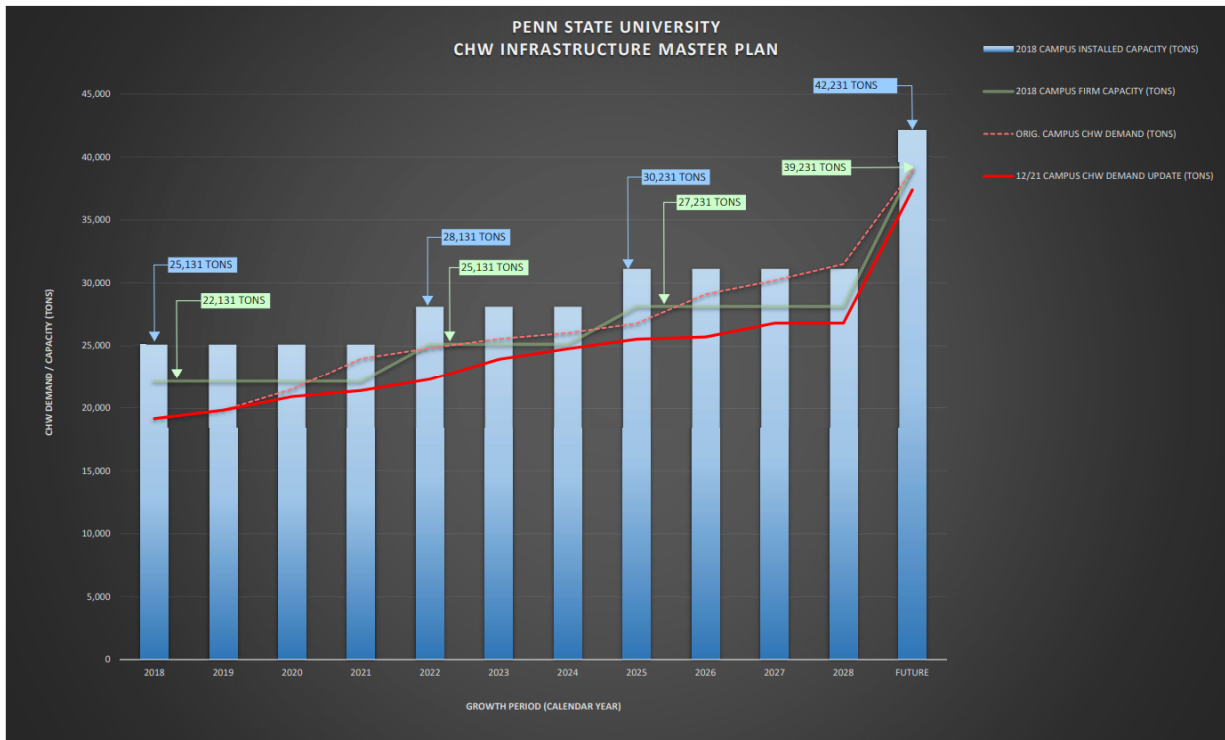

Figure 2 – Penn State University CCHW Infrastructure Master Plan
- Create a master plan that addresses future projections and planning tools and timelines for system upgrades and replacements while investigating newer technologies for the new CCHW Plant and CHW TES system. Current University efforts are shown in Figure 2 – Penn State University CCHW Infrastructure Master Plan.